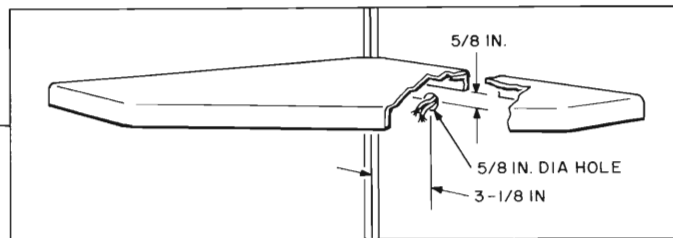

Fig. 3 — Requirements for Subscriber Set Wire Access Hole
4.05 When a subscriber set is required, drill a 5/8-inch hole for access to the wiring channel in accordance with Fig. 3.